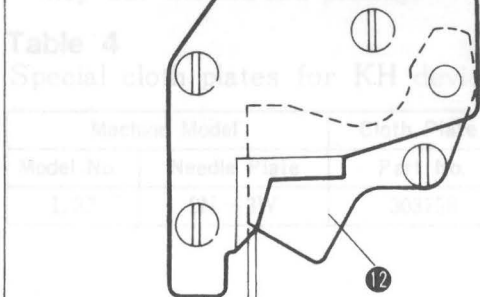

Fig.26
- To adjust the overlap of the blades, remove the cloth plate guide ⑦ again. The correct adjustment is 0.3mm (See Fig.26). To make this adjustment, rotate the pulley and move the upper knife to its highest position. Then loosen screw ⑪ and move the lower blade ⑫ until it is correctly adjusted.
- Use the existing screw ⑭ attached to the machine to fasten the auxiliary plate ⑬.